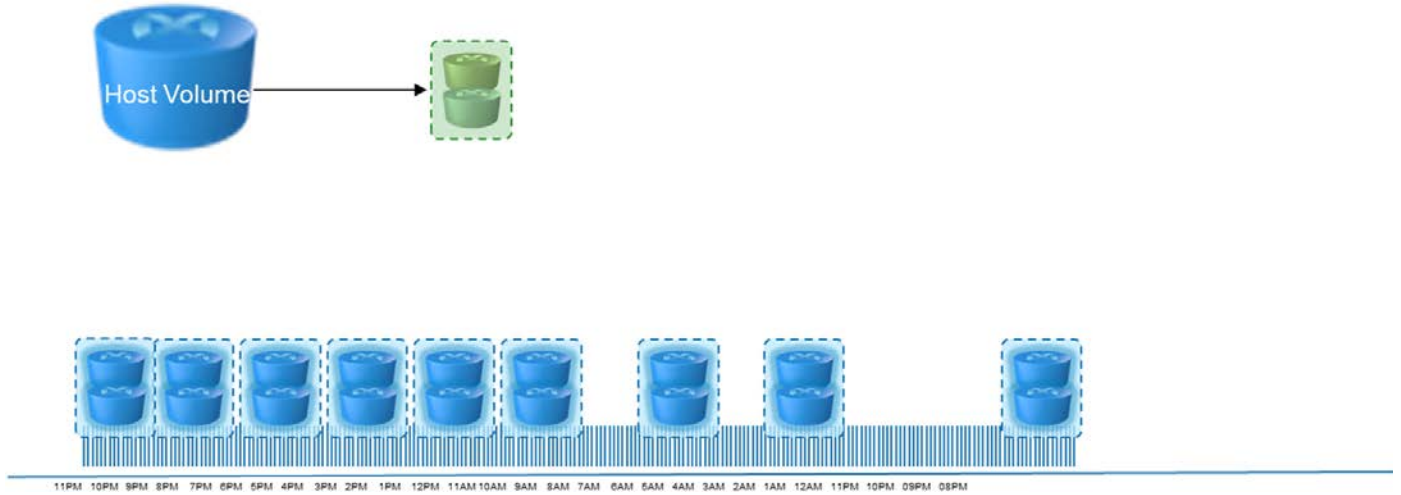

Figure 11. Initial State at DR Site
1. Figure 11 shows the initial state at the DR site.